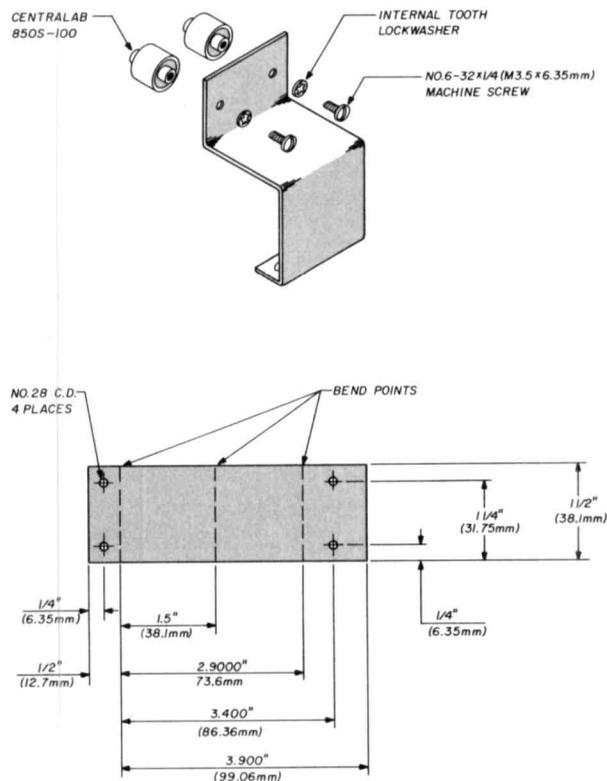

fig. 5. Plate line inductor pattern and bending layout for L5 and L6. Two assemblies are needed for the plate circuit.
- L5,L6 Plate resonators (see fig. 5)
The plate line is made up of two inductors L5 and L6 (see **fig. 5**) and the anode collet and capacitor assembly shown in **fig. 6**. With the inductor sizes given, the amplifier can be tuned from 220 to 222.5-MHz; no tests were run above 222.5-MHz.